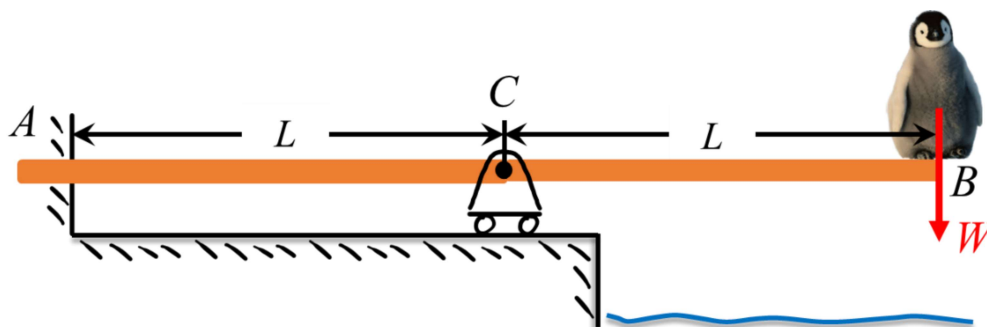

Figure 1
1. Figure 1 shows a diving board composed of a weightless beam AB with a length of  $2L$ . The beam is firmly clamped to a rigid wall at end A and supported by a frictionless roller at its midpoint, C. Take the flexural rigidity of the beam as  $EI$ . A penguin with weight  $W$  stands at the right end B of the beam.